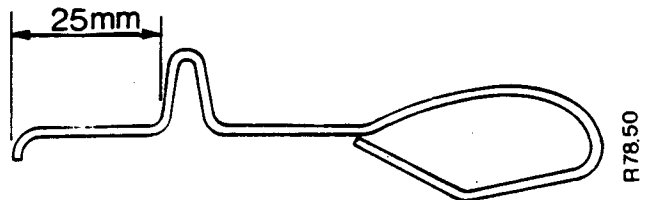
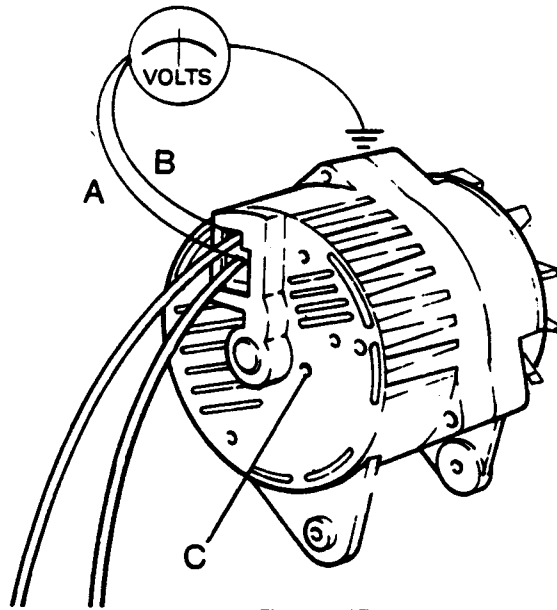

Figure H16
Figure H17
2. Put the special rod shown in Figure H16 in through the test hole C shown in Figure H17.